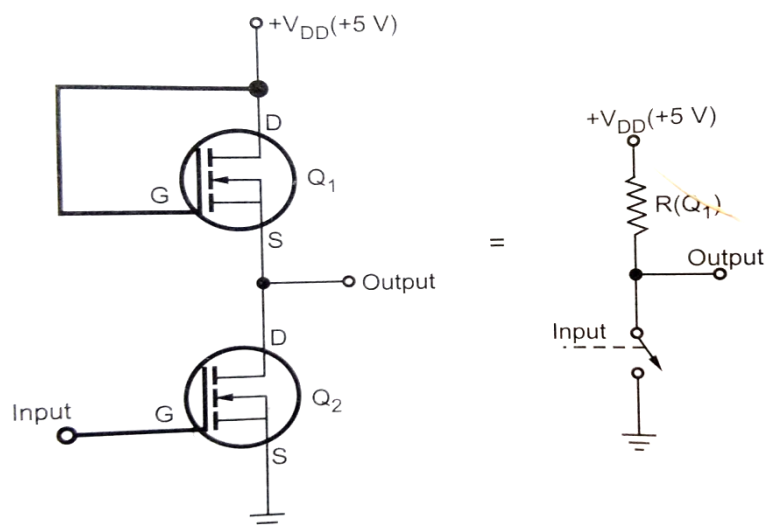

Figure 1.22: NMOS inverter circuit and its equivalent circuit
- Figure 1.22 shows the basic NMOS inverter circuit. It consist two N-channel MOSFETs. Q2 is a switching MOSFET and Q1 is a load MOSFET.